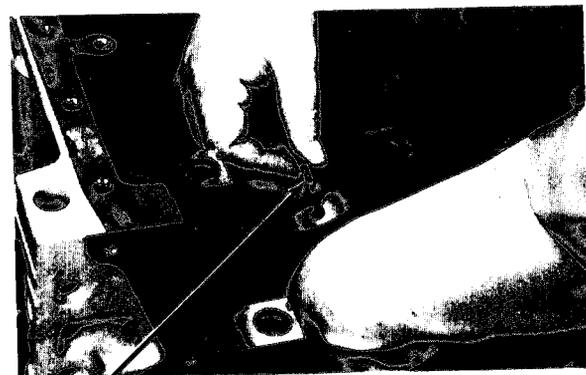

Figure 6-6
11. Remove four piston cooling nozzles (8, Figure 6-6).